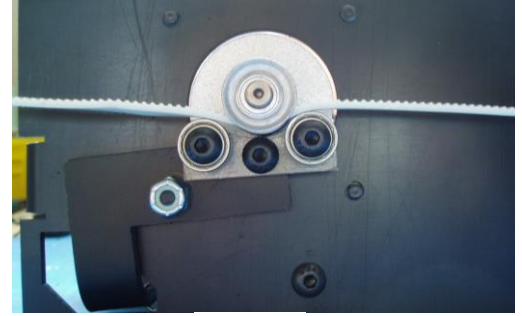

Fig 7
7. The belt should now be positioned just beside the gear on the side of the motor box. With the top lever on the motor box in the “open” position, slide the belt between the gear and the metal pulley (belt teeth facing up into the gear). Once the belt is seated into the gear, move the lever on the top of the motor box to the “closed” position. (Fig 7)